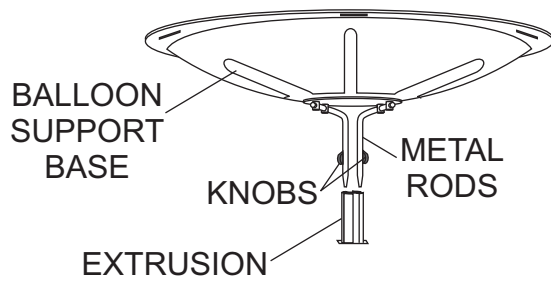

Figure 24. Attaching the Support Base to the Extrusion (MB1000/MB1000W/MB400B- 54-inch Balloons)
1. For MB1000/W and MB400B (54-inch balloons), insert the balloon support base metal rods into the extrusion on the mounting accessory (MBP, MBC, or MBS) and tighten the knobs to secure them in place. See Figure 24.